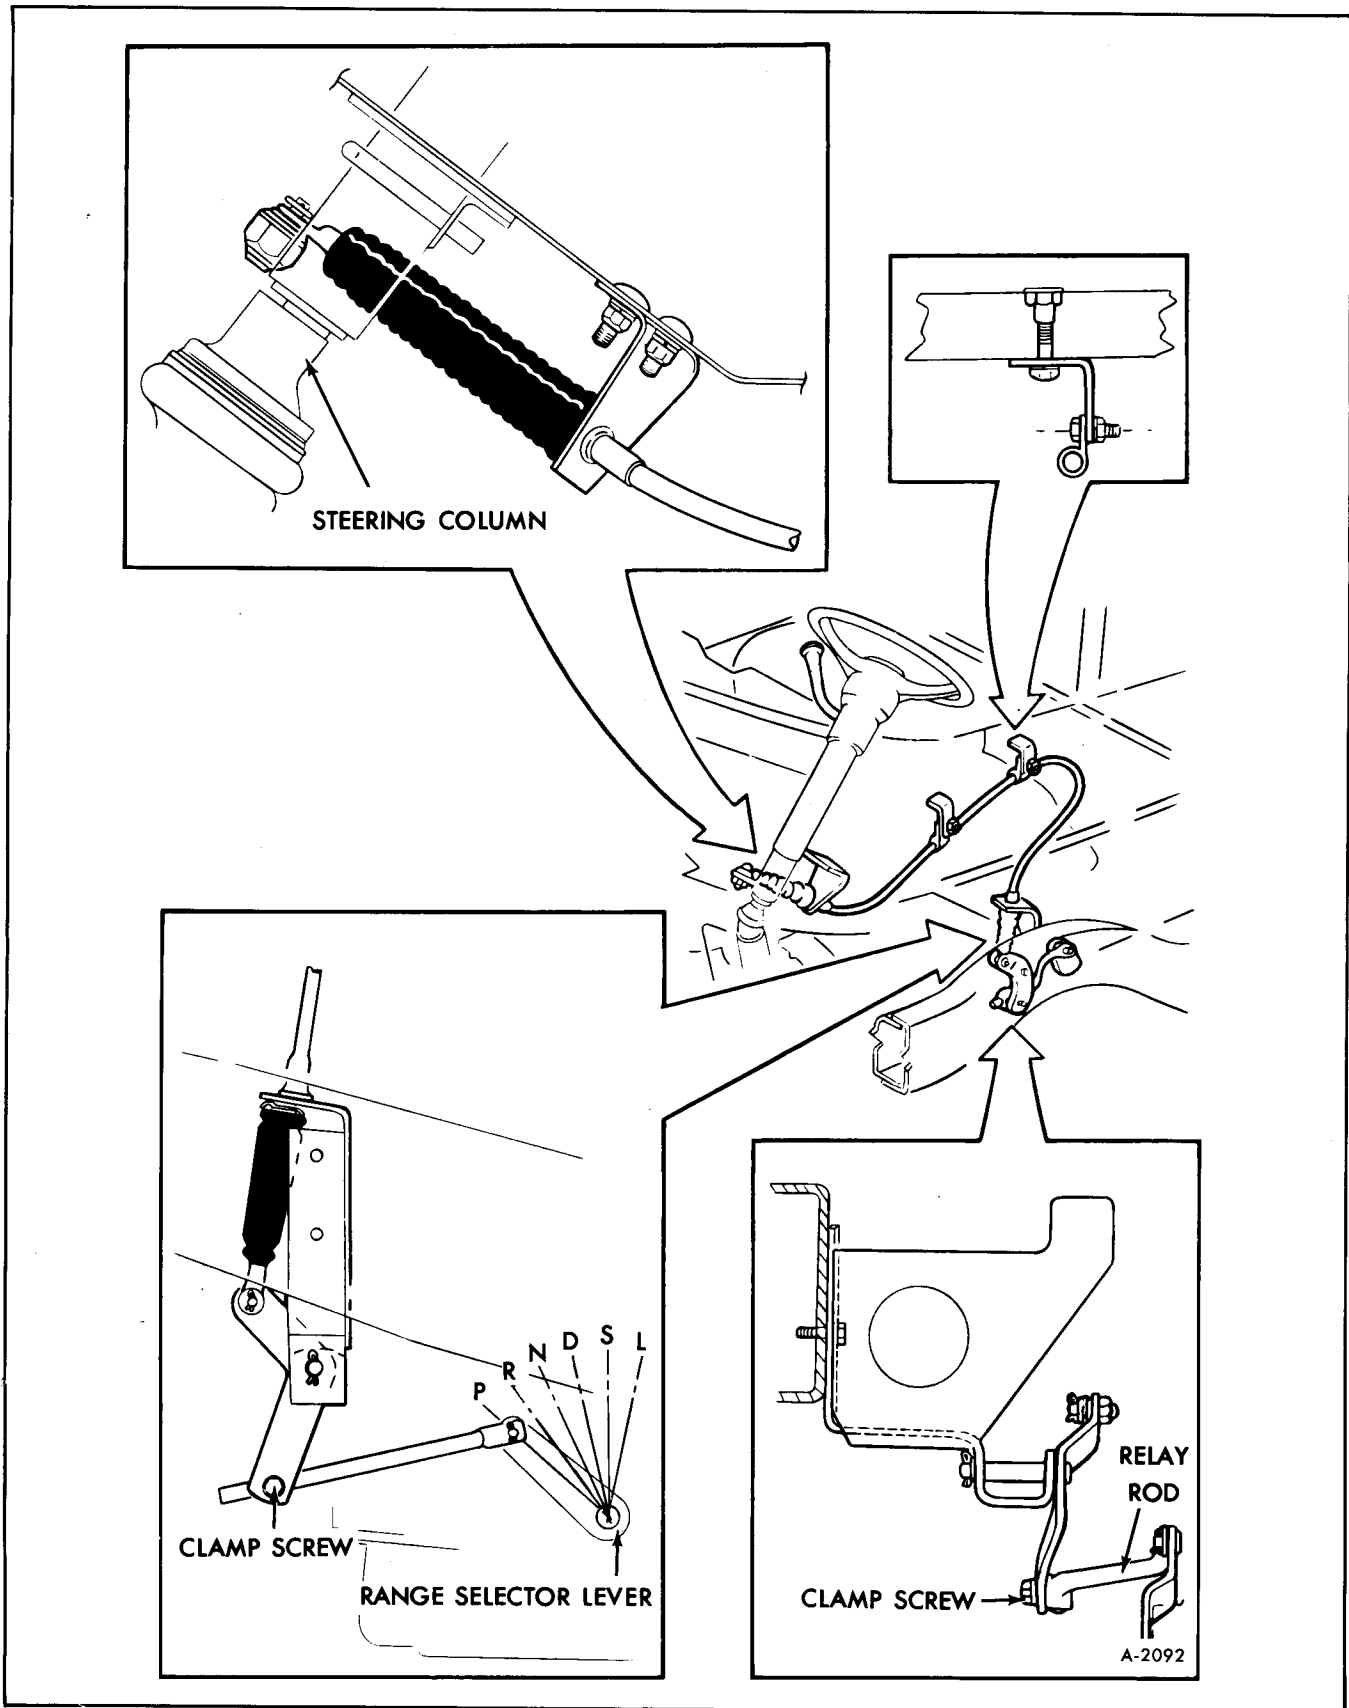

Figure 14—Transmission Manual Linkage
**LINKAGE ADJUSTMENT (FIGURE 14)**